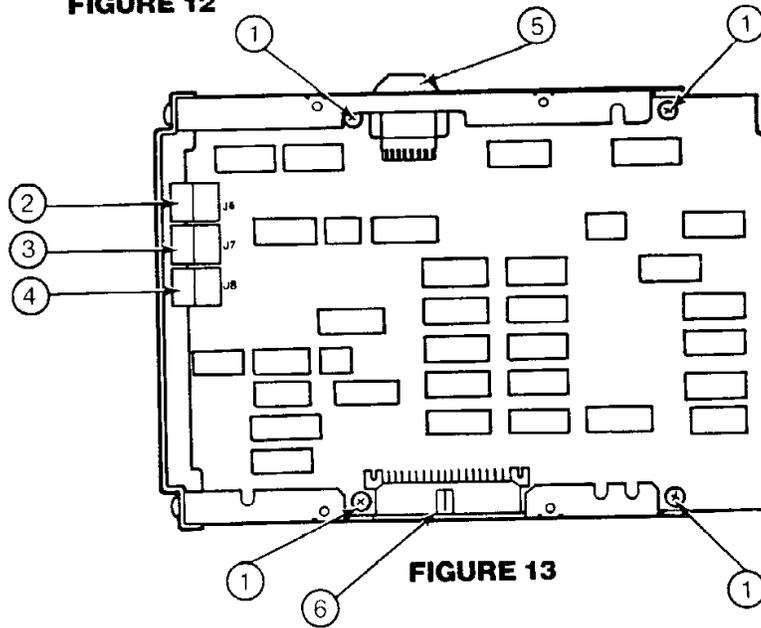

FIGURE 13
21. Remove the four Phillips head analog card mounting screws. (Figure 13, Item 1).
23. Disconnect the index, stepper motor and track 0 cables. (Figure 13, Items 2, 3 and 4). Remove the analog-to-controller cable. (Figure 13, Item 6).
24. Remove the head cable (Figure 13, Item 5). Gently slide it down and away from the analog board. Gently squeeze out the rails and remove the board from the HDA.
26. Replace the index, stepper motor and track 0 cables. Be sure they are installed in the correct order. (Figure 13, Items 2, 3 and 4).
27. Replace the head cable. Press down on the connector head if necessary to help line it up. (Figure 13, Item 5). Replace the analog-to-controller cable. (Figure 13, Item 6).